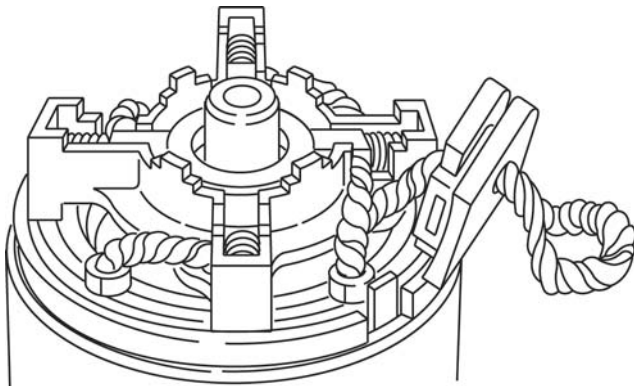

Fig. 117
5. Insert brushes into brush holder, Fig. 117.